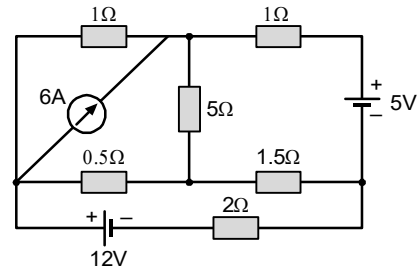

Fig.1.60: Given circuit
5. Determine the current in the $2\text{-}\Omega$ resistance of circuit shown in fig.1.60. (Ans. $4.1A$)